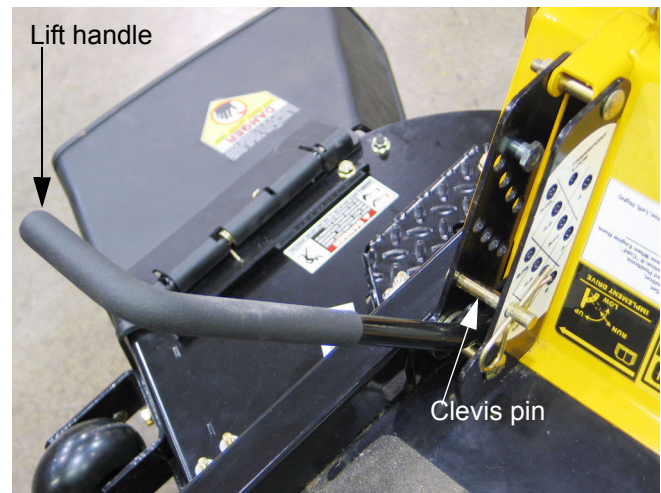

Figure 7.2
- 7.2. Trap the deck lift in the lowest position using the clevis pin so that the cutting deck rests on the ground and the lift handle does not imitate a catapult when the weight of the deck is removed from the lift assist springs. See Figure 7.2.